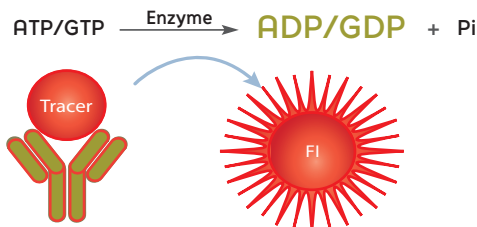

Figure 1. Transcreener® FI Assay Principle
The Transcreener® FI Assays are a single step, competitive immunoassay for direct detection of nucleotides with a red fluorescence intensity (FI) readout. The reagents for all of the assays are a red Tracer bound to a highly-specific monoclonal antibody-quencher conjugate. Nucleotide diphosphate or monophosphate produced by the target enzyme displaces the tracer from the antibody-quencher conjugate, resulting in an increase in fluorescence intensity (Figure 1). The use of a red tracer minimizes interference from fluorescent compounds and light scattering. The Transcreener® FI Assays are designed specifically for HTS with a single addition, mix-and-read format.